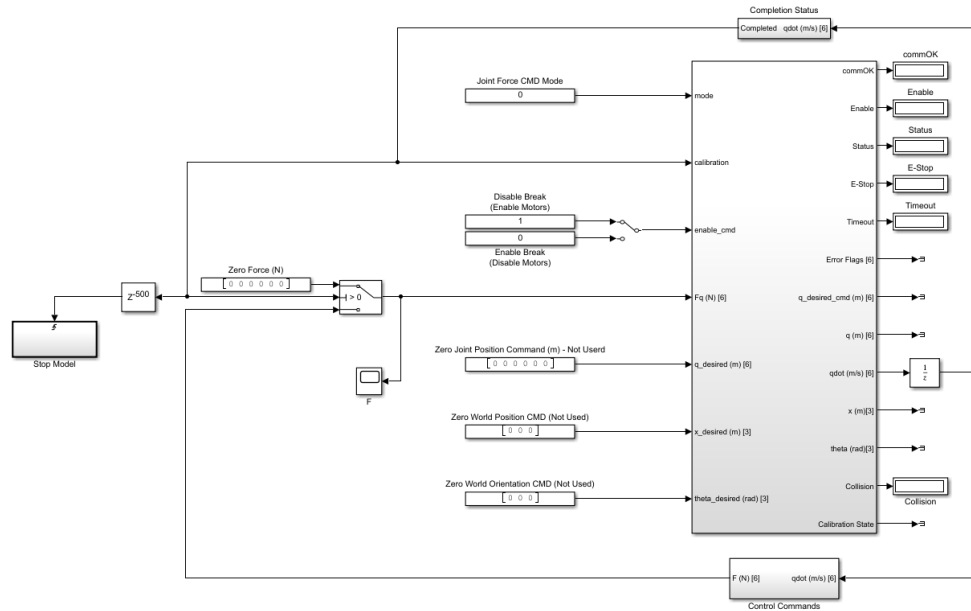

Figure 2.2: Simulink model used to calibrate the Hexapod using QUARC.
When the Hexapod is first powered ON, the positions measured from the encoders on all the joints are reset to 0, regardless of where the base joint of the Hexapod are actually at. The Hexapod2\_Controller\_Calibration controller, shown in Figure 2.2, positions each of the six joints along the linear guide until they reach the limit switch. Once all six joints have been placed at the limit switch positions, the encoders are reset and the model is stopped. If the joints are already at the calibrated position then the controller will only reset the encoders and stop the controller. Once calibrated, run the homing procedure outlined in Section 2.1.3.
3. Open the Simulink model called Hexapod2\_Controller\_Calibration, shown in Figure 2.2.